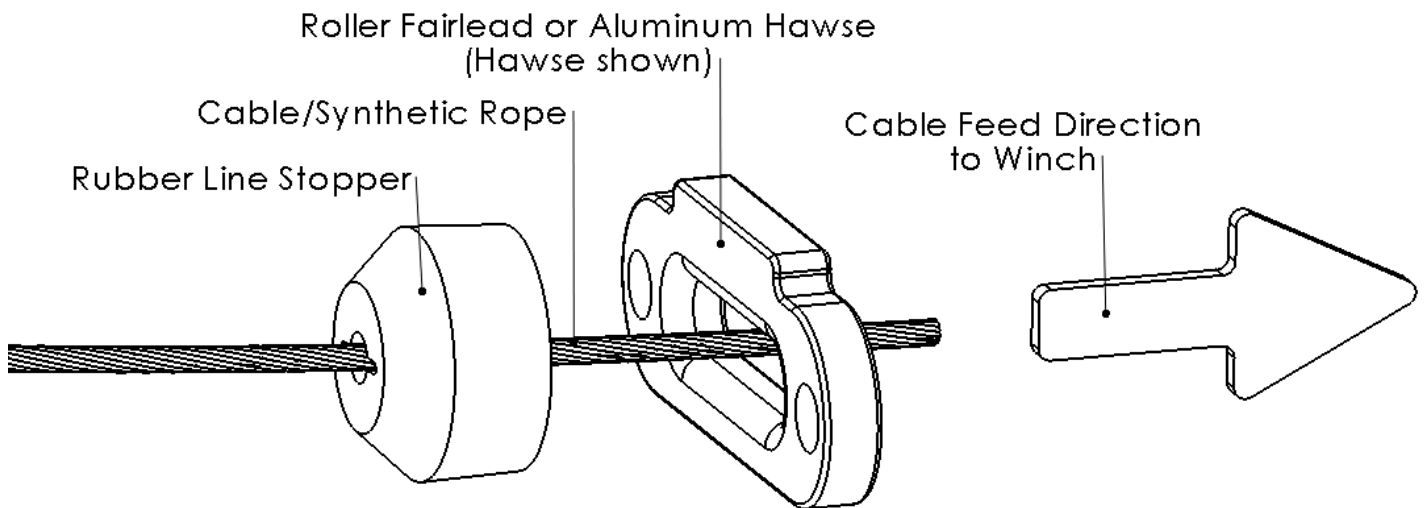

Figure 1
- 1) If the winch includes a Rubber Line Stopper, remove the steel cable or synthetic rope from the winch. Pass the cable through the Rubber Line Stopper and then through the Roller Fairlead or Aluminum Hawse. Leave the cable unattached at this point. After the winch is fully installed, reattach the cable to the winch. Leave the cable unwound as it will be wound under load to properly set the cable. See Figure 1.